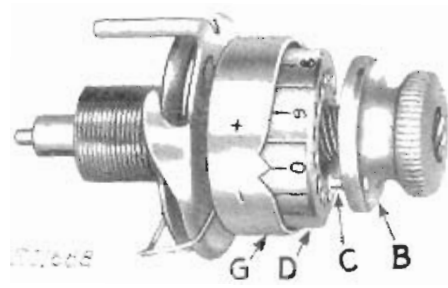

FIG. 44
Turn the tension regulating thumb nut (B, Fig. 44) until zero on the tension index flange (D) is opposite the pointer on the tension indicator (G):